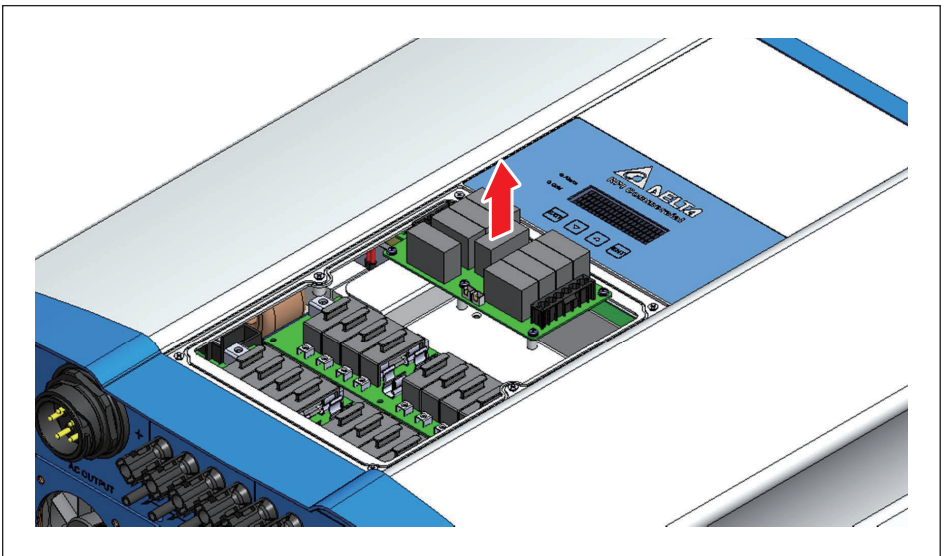

Figure 6-4 : Pull out the SPD unit
5. Pull out the SPD unit. (**Figure 6-4**)